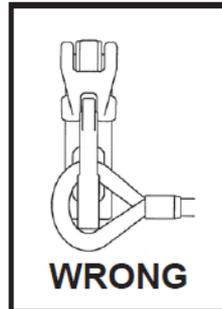

Figure 4
- Never side load (See Figure 4), or tip load (See Figure 5) a hook.